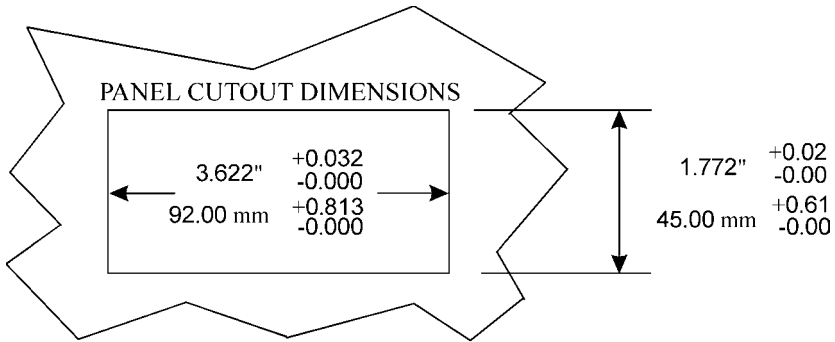

FIGURE 4 PANEL CUTOUT
1. Make a cutout on any panel, with a thickness of 1/16 inch (1.5 mm) to 3/8 inch (9.5 mm) . (REFER TO FIGURE 4)